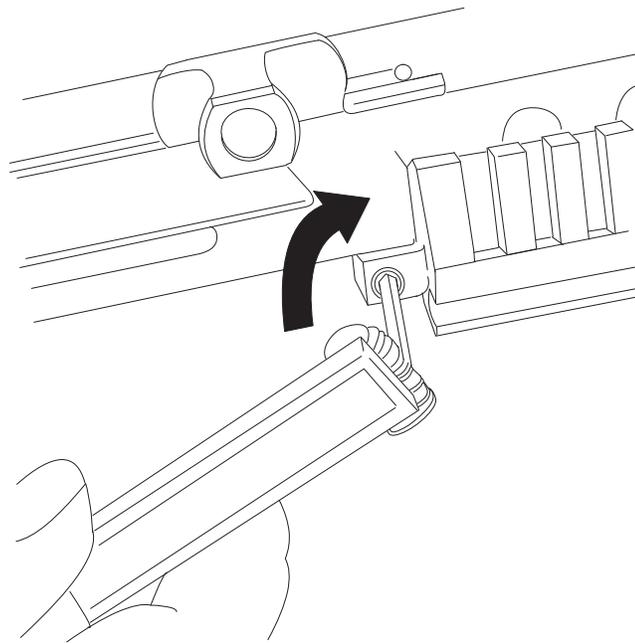

Figure 4
(5) (Figure 4) Using a 9/64 hex key wrench, install the two screws (one at each end of the adapter rail) from the right side of the adapter rail and tighten snug. Do not over tighten.